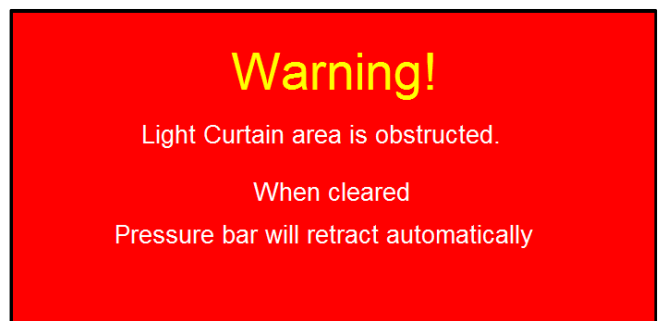

Figure 3-17
**Message ON / OFF button:** If this button is toggled to ON, a message is displayed every time the Light Curtain area is blocked. The message tells operators to check for an obstruction. See Figure 3-17. Remove the obstruction to continue operation. If this button is toggled to OFF, a message will not be displayed when the Light Curtain area is blocked.